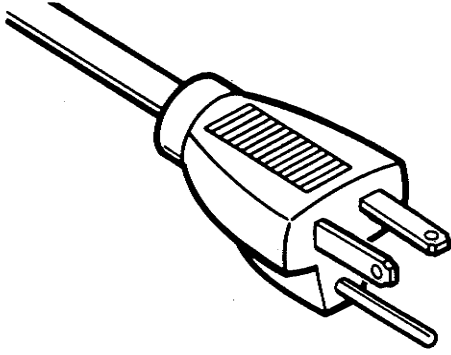

Figure 6. Electrical Plug
- E. Connect the power cord. The plug is designed for 115 volt/20 amp duty. The unit must be connected to a properly grounded receptacle. The electrical cord furnished as part of the freezer has a three prong grounding type plug (Fig. 6). The use of an extension cord is not recommended. If one must be used, use one with a size 12 gauge or heavier with a ground wire. **Do not** use an adaptor to get around grounding requirement.